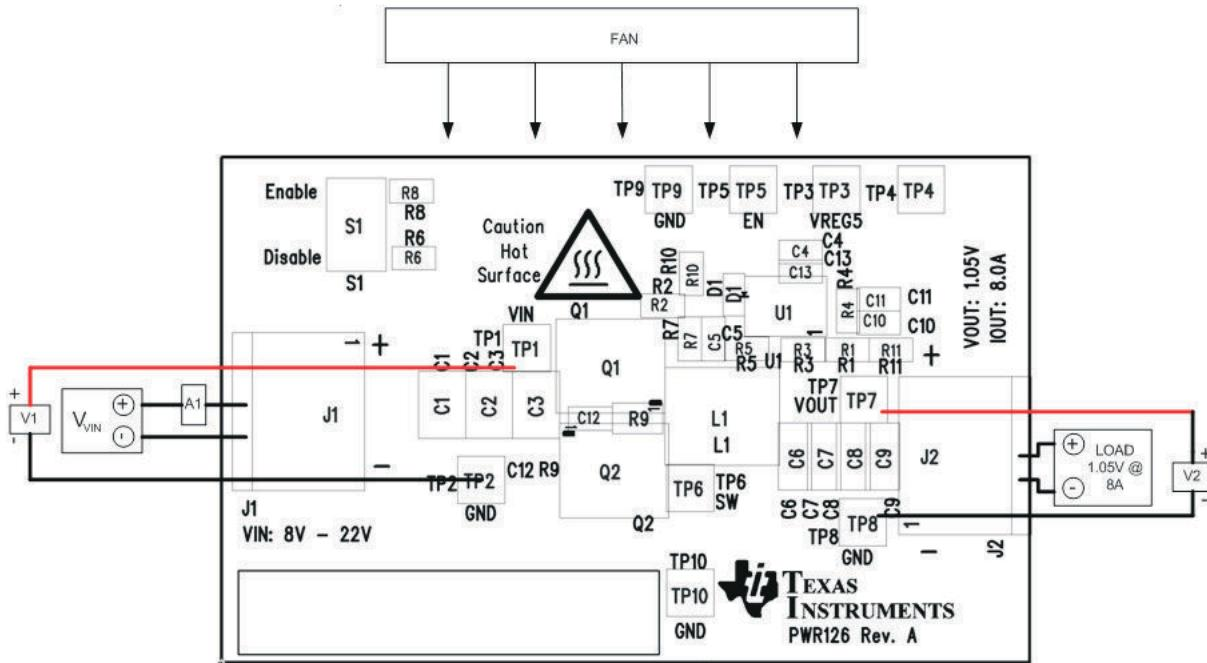

Figure 5-2. TPS53014EVM-126 Recommended Test Setup
- **VIN:** The input voltage source, V_{IN} , should be a 0-V to 30-V variable DC source capable of supplying 2 A_{DC}. Connect VIN to J1 as shown in Figure 5-2.
Figure 5-2 is the recommended test setup to evaluate the TPS53014EVM-126. Working at an ESD workstation, make sure that any wrist straps, bootstraps, or mats are connected referencing the user to earth ground before power is applied to the EVM.
- Prior to connecting the DC input source VIN, it is advisable to limit the source current from VIN to 2-A maximum. Make sure VIN is initially set to 0 V and connected to J2 as shown in Figure 5-2.
Other Connections: Place a fan as shown in Figure 5-2 and turn on, making sure air is flowing across the EVM.
1. Set up the EVM as described in Section 5 and Figure 5-2.